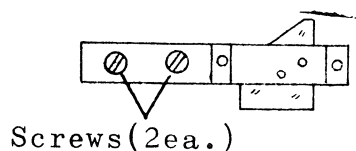

Fig.3
<p>Fig.3</p> 	<p>CAUTION</p> <p>When dismantling the shutter speed dial, by loosening three setscrews, first, place the following alignment marks (A) and (B), as this will prove convenient for reassembling. (Fig.4)</p> <p>(A) alignment: between shutter speed dial gear and high speed cam.</p> <p>(B) alignment: between shutter speed dial gear and pulley gear (set to ASA 800 or ASA 1600).</p>
<p>Fig.4</p> 	<p>5. Detach the click-stop spring. (Fig.3) Unscrew two fixing screws.</p> <p>6. Detach the shutter speed cam. (Fig.5) Move the lever of the F-X synchro-switch assembly plate, as indicated by the arrow, and then rotate the cam so that the cutaway section of the cam is placed on the lever side, at which point, pull the cam out softly.</p>